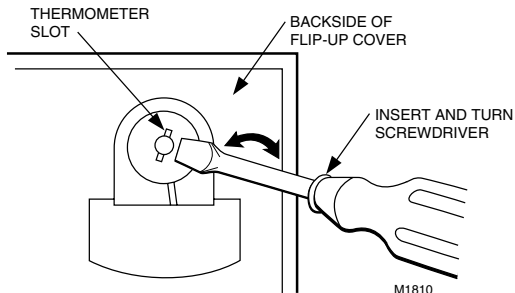

Fig. 7—Thermometer Adjustment.
5. If the readings are different, insert a small screwdriver in the thermometer slot, see Fig. 7, and turn it until both thermometers read the same.